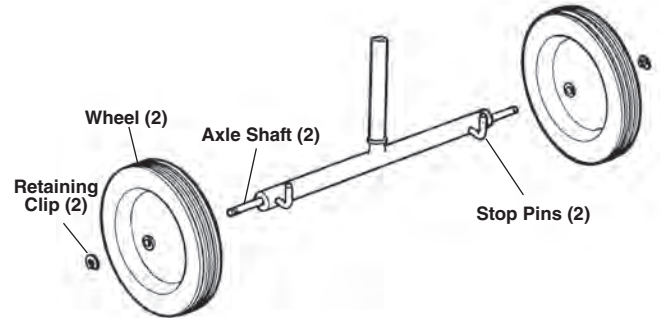

Figure 27 – No. 32 Transporter Assembly
1. If needed, assemble the No. 32 Transporter (see *Figure 27*).